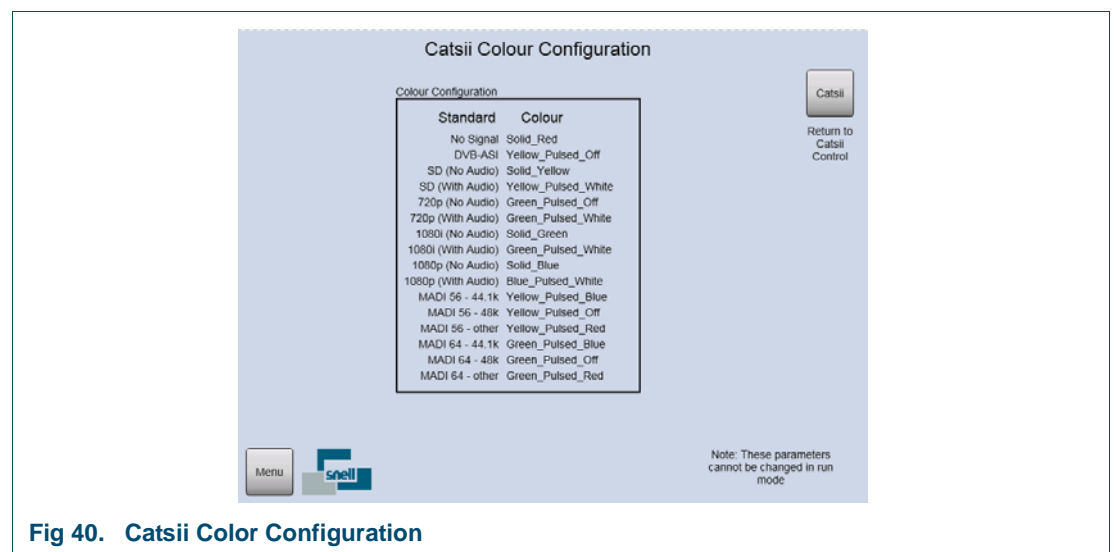

Fig 40. Catsii Color Configuration
- **On** button - enables Catsii signal status on the rear of the router. The Catsii colors used on your system can be viewed by touching the **Catsii Colours** button on the Catsii Control screen. This displays the Catsii configuration screen shown in Fig 40.
Touch the **Catsii Colours** button on the Catsii Control screen to display the Catsii configuration screen, see Fig 40.